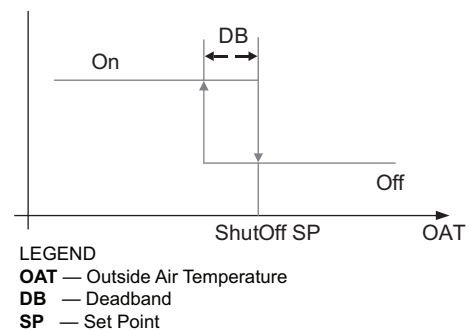

Fig. 84 — Hysteresis Settings
Hysteresis setting (DB) defaults to 2°F (–17°C). See Fig. 84.